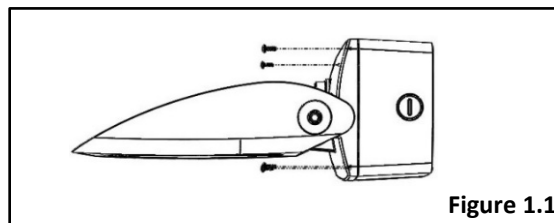

Figure 1.1
1. Detach the back box from the fixture by removing four screws (Fig. 1.1).
9. Secure the back box to the cover with four screws with screwdriver (Fig. 1.1)